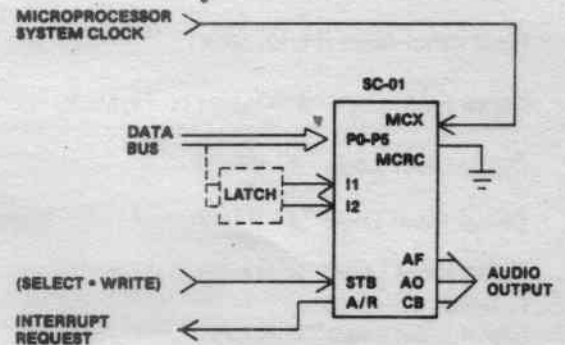

Figure 10. Multiple Message, Variable Block Size
**Multiple Message, Variable Block Size:** See Figure 10. The microprocessor loads phonemes into a data bus. The A/R signal generates an interrupt request for each new phoneme.